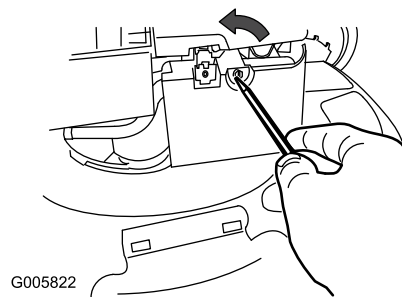

Figure 37
1. Use a screw driver to open the air-filter cover (Figure 37).